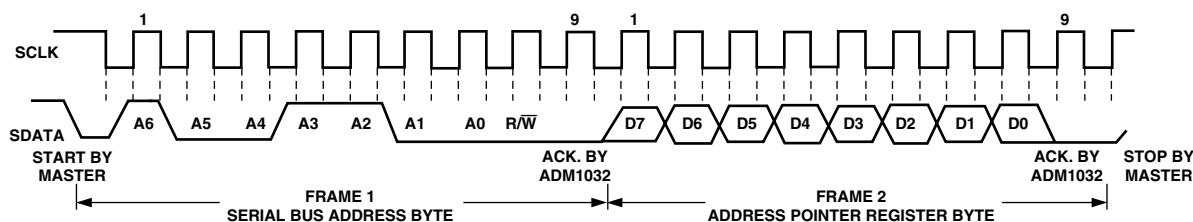

Figure 3b. Writing to the Address Pointer Register Only
1. If the ADM1032's Address Pointer Register value is unknown or not the desired value, it is first necessary to set it to the correct value before data can be read from the desired data register. This is done by performing a write to the ADM1032 as before, but only the data byte containing the register read address is sent, as data is not to be written to the register. This is shown in Figure 3b.
2. If the Address Pointer Register is known to be already at the desired address, data can be read from the corresponding data register without first writing to the Address Pointer Register and Figure 3b can be omitted.